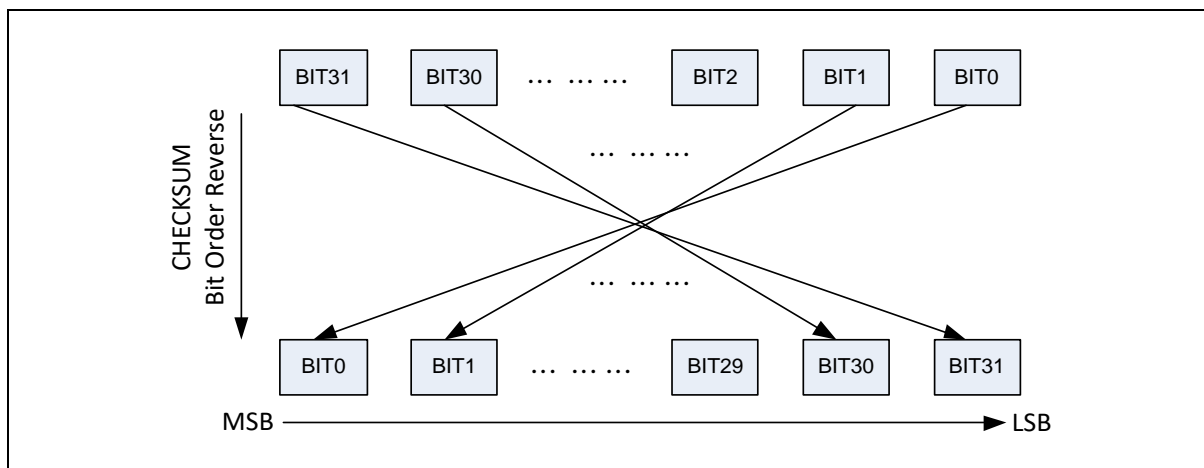

Figure 6.17-2 CHECKSUM Bit Order Reverse Functional Block
- 2) Configure bit order reverse for CRC checksum by setting CHKSREV (CRC\_CTL[25] Checksum Bit Order Reverse). The functional block is also shown in Figure 6.17-2 CHECKSUM Bit Order Reverse Functional Block